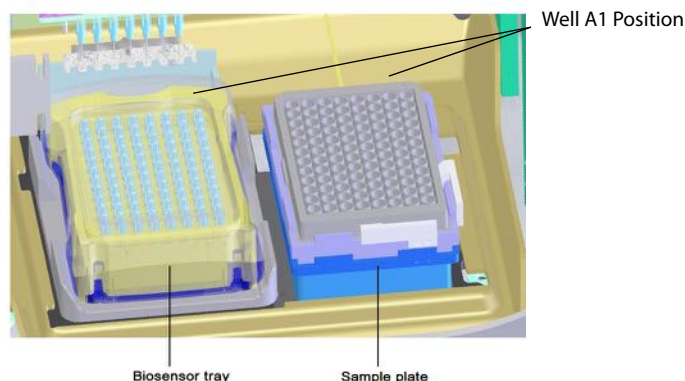

Figure 9-55: Biosensor Stage (left) and Sample Stage (right)
2. Place the biosensor tray on the biosensor stage (left side) so that well A1 is located at the upper right corner (see Figure 9-55).
3. Place the sample plate on the sample stage (right side) so that well A1 is located at the upper right corner (see Figure 9-55).